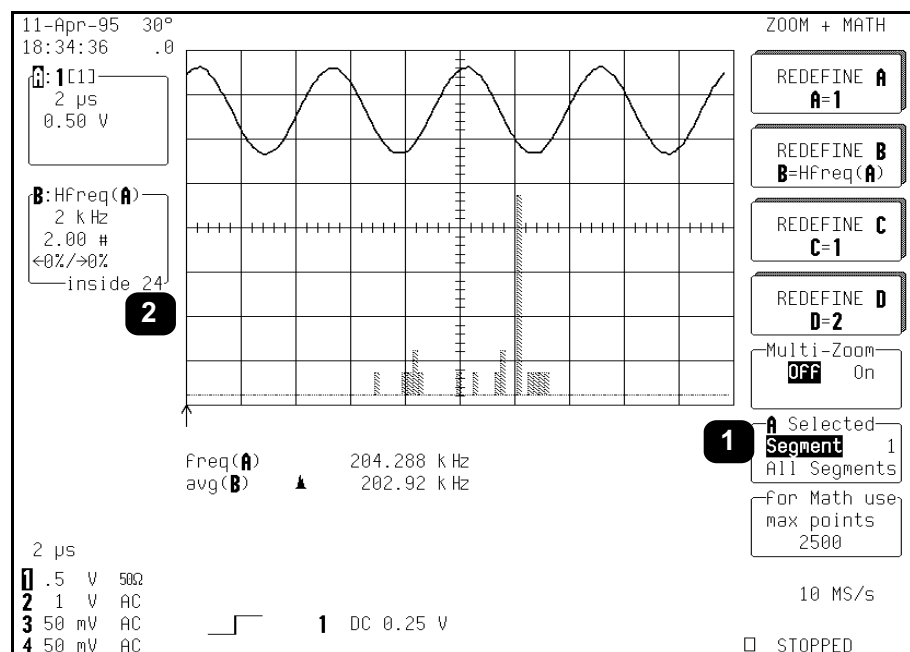

Figure 2.17
Figure 2.17 shows **“Selected”** a histogram of the frequency (**“freq”**) parameter for **“Segment 1”** (Annotation ①) of Trace **“A”**, which is a zoom of a 10-segment waveform on Channel 1.